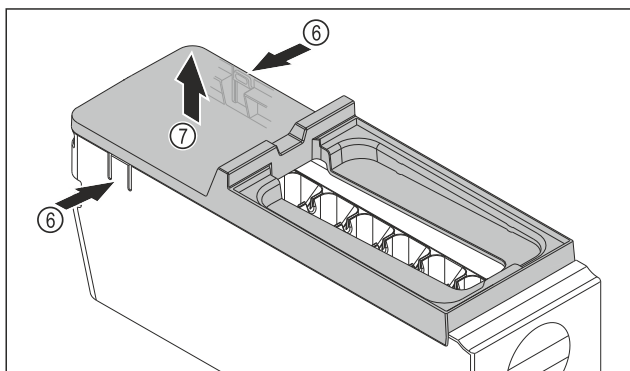

Fig. 87
- Removing the EasyTwist-Ice body cover: Push the tabs Fig. 87 (6) on both sides of the EasyTwist-Ice body with one hand.
- Use the other hand to remove the cover Fig. 87 (7) upwards.